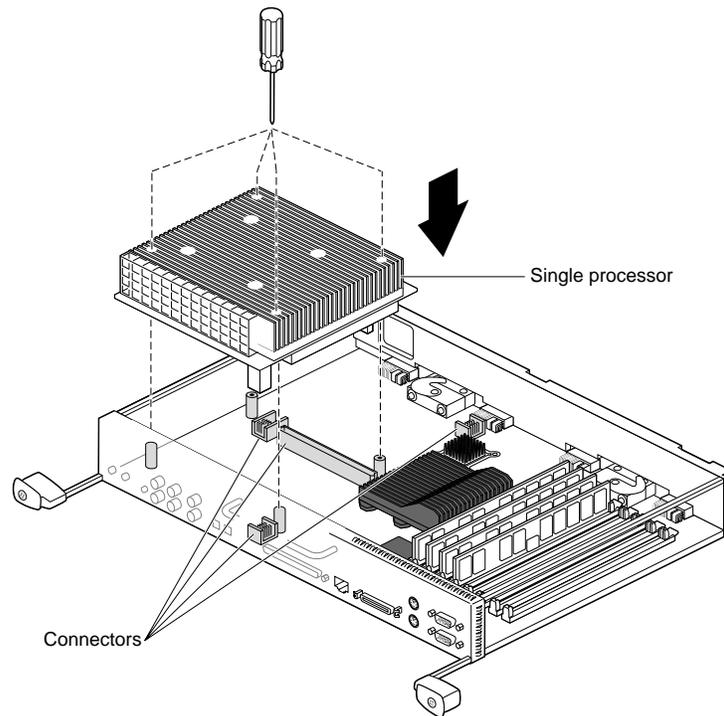

Figure 2-15 Installing a Single Processor
3. If you are installing a single processor, place it on the side of the system module closest to the panel of connectors, as shown in Figure 2-15.